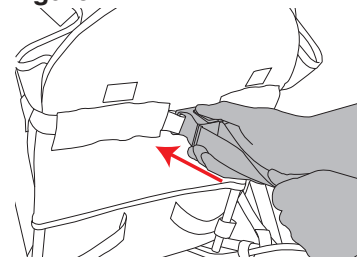

Figure 12
- To adjust a seatback to a more upright position, pull the straps at the end of the recline mechanism rearward while pushing the mechanism forward until the seatback is in the desired position. See Figure 12. Note: To get a seatback into its most upright position you may need to push the seatback toward the front of the stroller before pulling the straps.